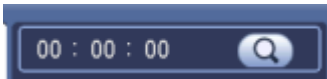
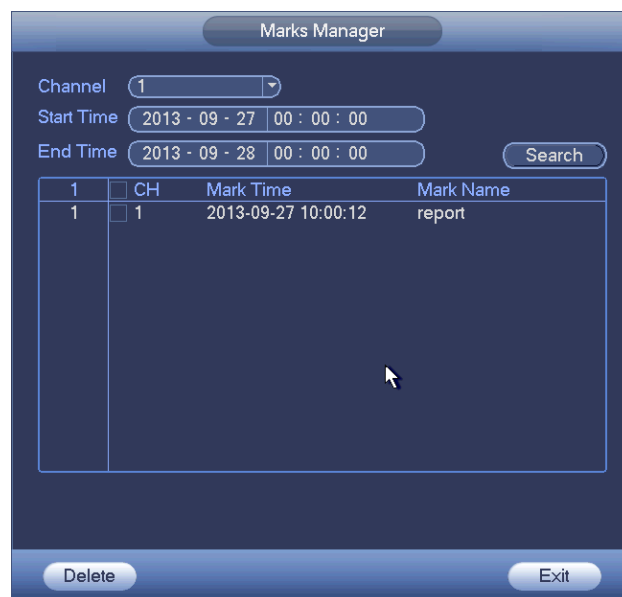

Figure 4-36
Figure 4-40
Click search button in the main menu, search interface is shown as below. See Figure 4-36.
**Please make sure your purchased device support this function. You can use this function only if you can see the mark playback icon on the Search interface (Figure 4-36).**
During 1-window playback mode, click mark file list button  in Figure 4-36, you can go to mark file list interface. Double click one mark file, you can begin playback from the mark time.
Click the mark manager button  on the Search interface (Figure 4-36); you can go to Mark Manager interface. See Figure 4-40. System can manage all the record mark information of current channel by default. You can view all mark information of current channel by time.
From main menu->Search or you can right click mouse on the preview interface and then select Search, you can go to Figure 4-36.
On the main menu, click Search button, or right click mouse and then select Search. You can go to the Figure 4-36.